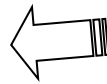

Fig 13
11. Pull the Grille Guard forward, away from the vehicle, **(FIGURE 13)**.
1. Rotate the levers on the two Quick Release Bolts 1/2 turn to loosen the clamp on the Top Support Bracket, (**FIGURE 12A**). Try to pull the Grill Guard forward. If necessary, slightly loosen the top hex bolts on the Frame Mounting Brackets to pivot the Grille Guard away from the vehicle. Carefully pull on the Grille Guard until it is fully extended away from the vehicle, (**Figure 13**). **WARNING!** Do not loosen the bolts all the way. Damage to the truck or Grille Guard may occur. Only loosen the bolts enough to move the Grille Guard.